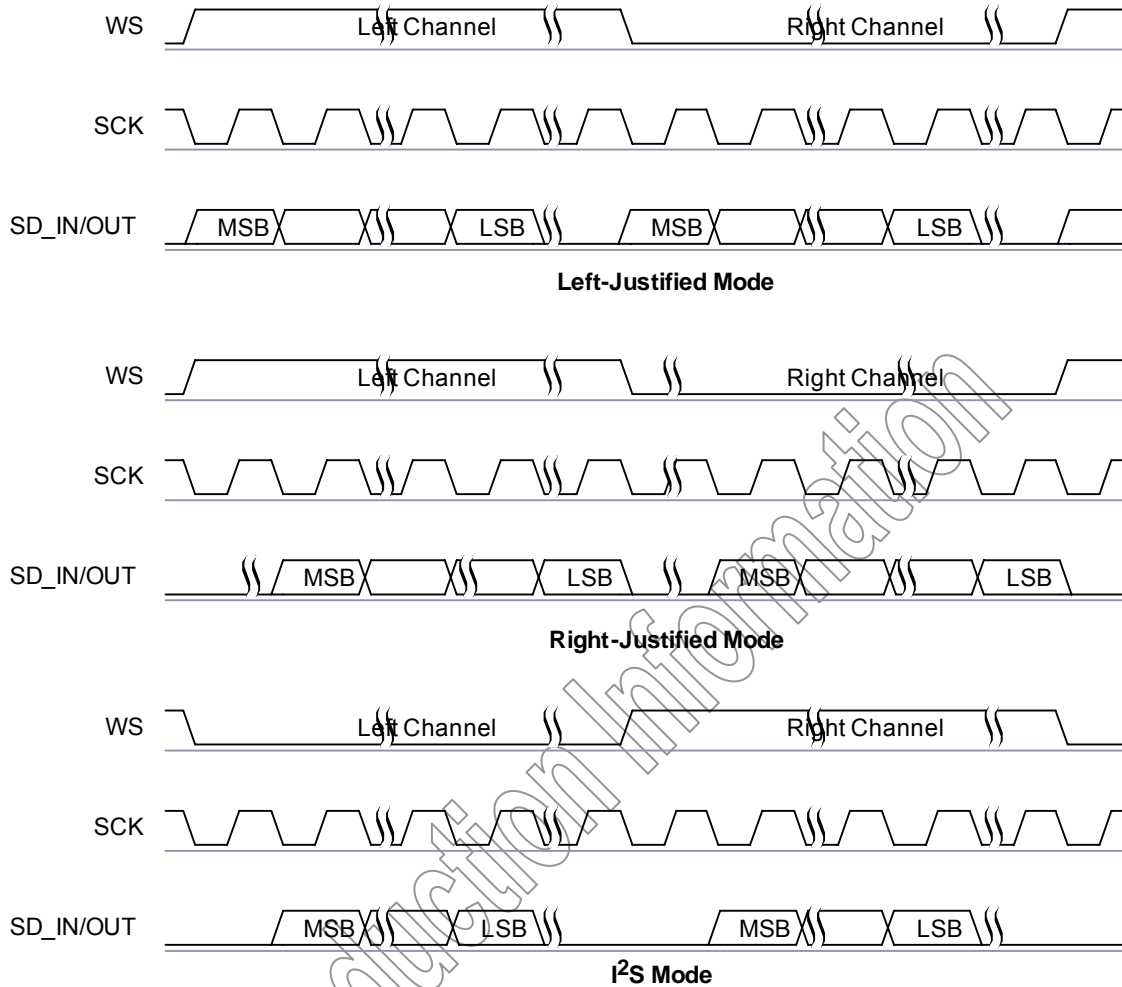

Figure 8.35: Digital Audio Interface Modes
The digital audio interface supports the industry standard formats for I²S, left-justified (LJ) or right-justified (RJ)⁽¹⁾. The interface shares the same pins as the PCM interface as shown in Table 6.1 and the timing diagram is shown in Figure 8.35.